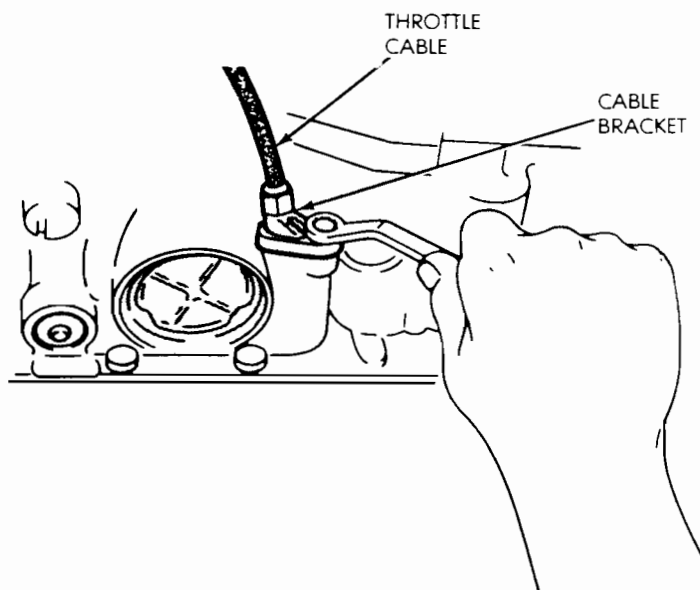

**Fig. 26 Installing Park Rod Bracket**
- (16) Install park rod bracket (Fig. 26). Tighten bracket bolts to 10 N•m (7 ft-lbs) torque.
- (17) Install valve body, oil screen, oil pan and neutral switch.